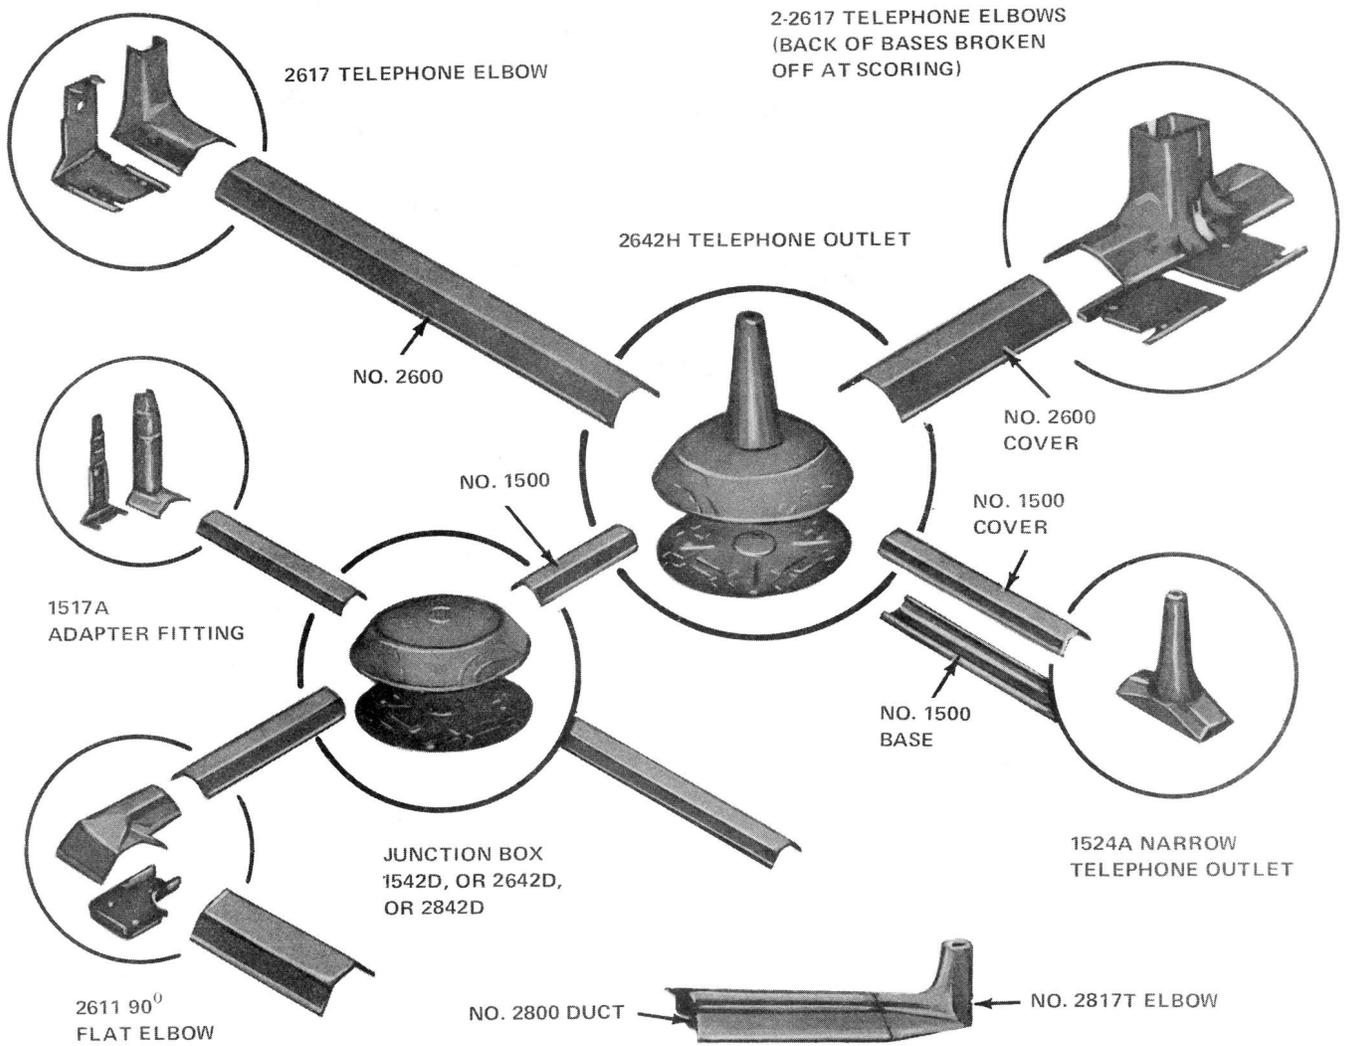

Fig. 1—Wirehold Metal Overfloor Duct
- Wiremold—see Fig. 1, 4, 5, 6, 7, 9, and Table B